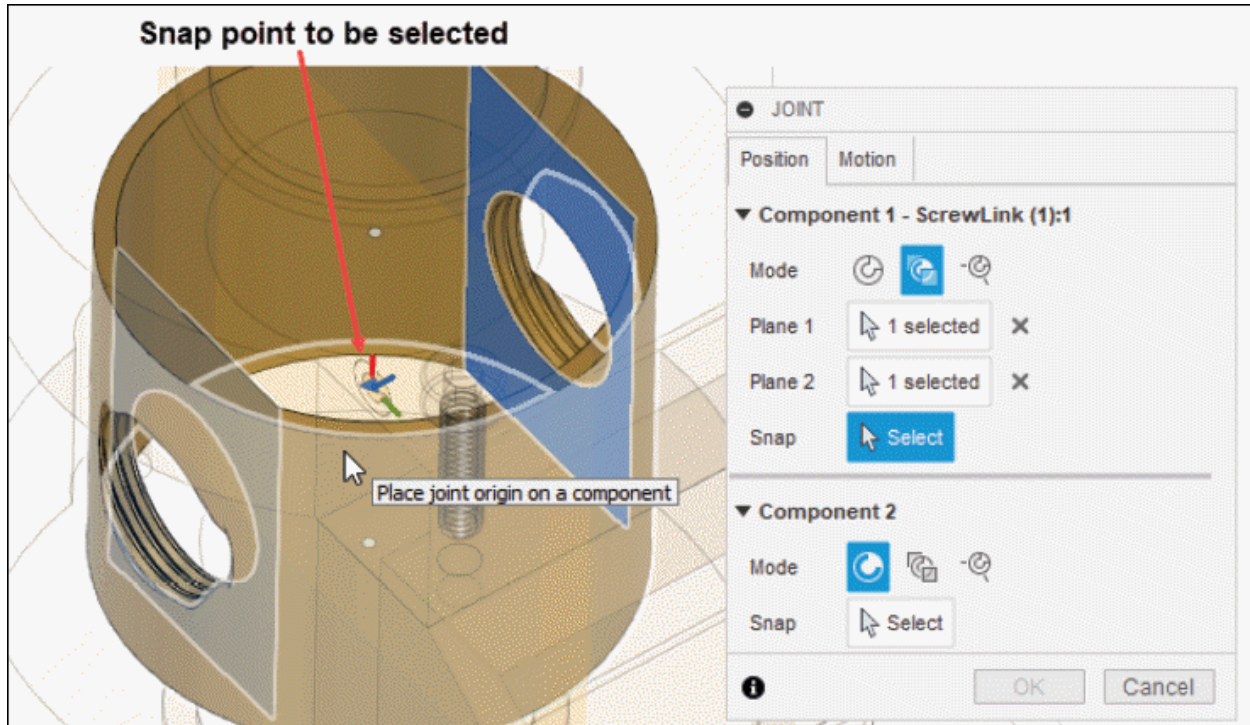

Figure-84. Selecting snap point for Component 1
- The **Select** button of **Snap** section will become active. Select the snap point on the component as shown in Figure-84.